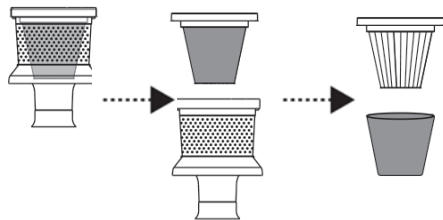

FIG. 10A
5. Turn the HEPA filter clockwise to release it and remove the sponge filter (FIG.10A)